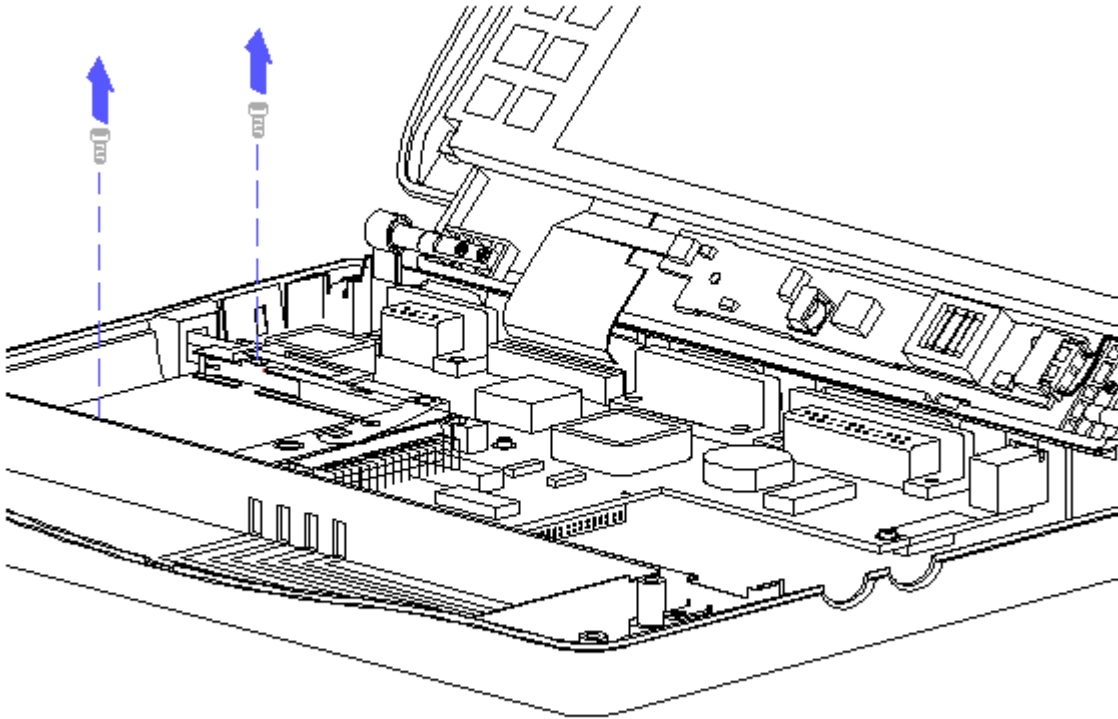

Figure 3-48. Removing the Screws from the PCMCIA Rails
10. Remove the two Phillips screws from the PCMCIA rails (Figure 3-48).